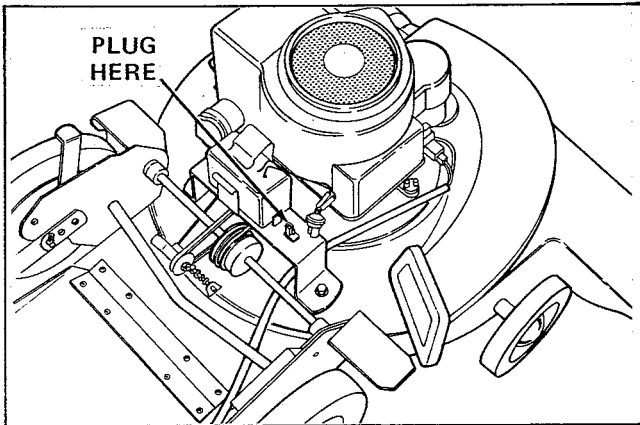

Figure 12. Charging Battery
1. Plug battery charger cord into battery connector (see figure 12).